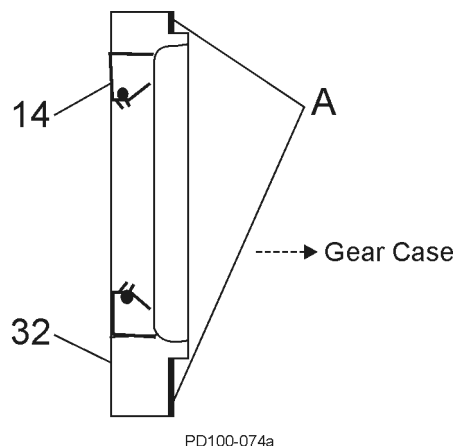

Figure 56 - Install Bearing Retainer
18. Coat the retainer flanges with silicone sealant (Figure 56, item A). (Gore-Tex[®] sealing tape can be used on silicone free models.) The grease seal (item 14) will be flush with the front of the bearing retainer. On 030 models, the grease seal will be against the step on the inside diameter of the retainer.
19. Install the bearing retainers (Figure 56, item 32).